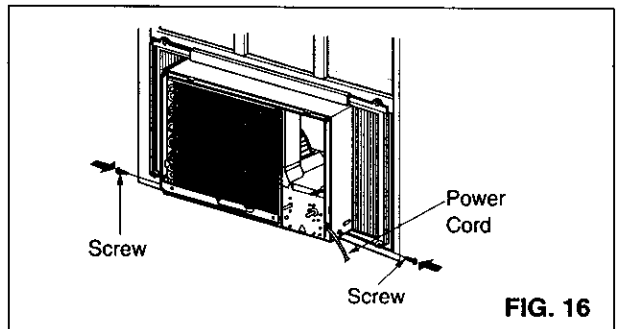

FIG. 16
- 16** Slide the chassis into the cabinet. (FIG. 16)